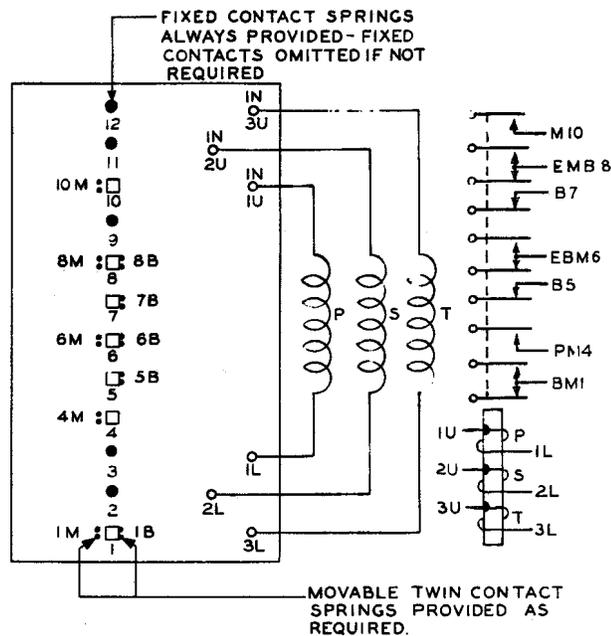
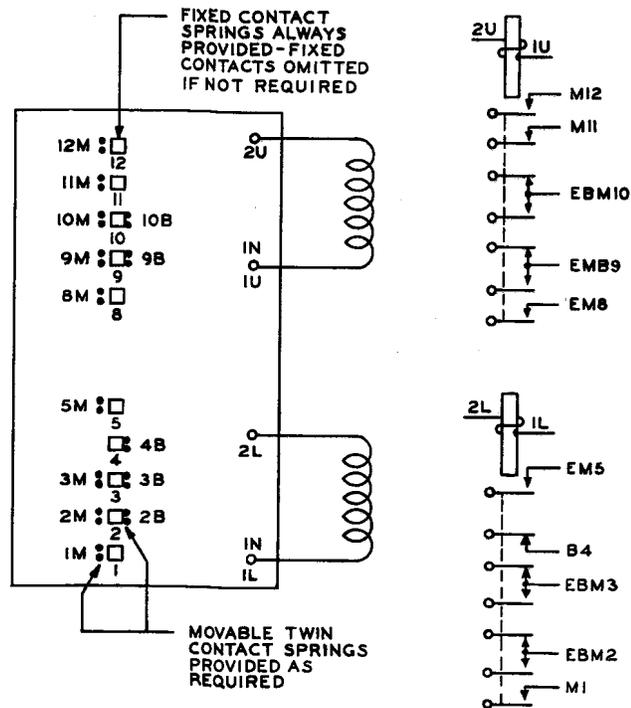

Fig. 8 - Winding and Contact Spring Arrangement as Viewed From the Front (contact side) - 12-Position AF-, AG-, AJ-, and AL-Type Relays
Fig. 12 - Winding and Contact Spring Arrangement as Viewed From the Front (contact side) — AK- and AM-Type Relays
(a) **12-Position Relays:** As viewed from the front of the relay, there are 12 contact positions arranged vertically. Each position has a single fixed spring and may or may not have movable make and/or break twin springs associated with it, since not all relays have a full complement of movable springs. The make springs are located to the left of the fixed springs and the break springs to the right as shown in Fig. 8. The fixed springs are numbered consecutively from 1 to 12, beginning at the bottom. The movable twin springs are numbered the same as their associated fixed springs with the appropriate suffix M (make) or B (break).
2.28 Winding Terminals: Winding terminals are provided as required and extend from the front of the relay, where test connections may be made, to the rear where the external wiring is connected. As viewed from the front, the winding terminals are arranged in two groups to the right of the core as shown in Fig. 8. Referring to the figure, the terminals in the upper group, on multiple-wound relays are designated 1U, 2U, and 3U; those in the lower group are 1L, 2L, and 3L. On single-wound relays the upper terminal is designated U and the lower terminal L. As viewed from the rear, the winding terminals are located to the left of the contact spring terminals and are designated the same as when viewed from the front.
2.29 Contact Springs (front view): As viewed from the front of the relay there are 10 contact positions arranged vertically in two groups of five each as shown in Fig. 12. The contact springs are numbered as if there were twelve positions as in the case of 12-position AF-, AG-, AJ-, or AL-type relays shown in Fig. 8. Positions 6 and 7 are omitted, this space being taken by part of the two cards of the relay. Each position has a single fixed spring and may or may not have movable make and/or break twin springs associated with it, since not all relays have a full complement of movable springs. The make springs are located to the left of the fixed springs and the break springs to the right. The fixed springs in the lower group are numbered consecutively from 1 to 5, beginning at the bottom. The springs in the upper group are numbered from 8 to 12. The movable twin springs are numbered the same as their associated fixed springs with the appropriate suffix M (make) or B (break).
2.31 Winding Terminals: Winding terminals are provided as required and extend from the front of the relay, where test connections can be made, to the rear where the external wiring is connected. As viewed from the front, the winding terminals are to the right of the relay core as shown in Fig. 12. The terminals for the upper coil appear near the top of the spoolhead and those of the lower coil near the bottom of the spoolhead, the four terminals being in a vertical line. The terminals of the upper coil are designated 1U and 2U from the bottom up, and those of the lower coil are designated 1L and 2L from the bottom up. As viewed from the rear, the winding terminals are located to the left of the contact spring terminals, and are designated the same as when viewed from the front.